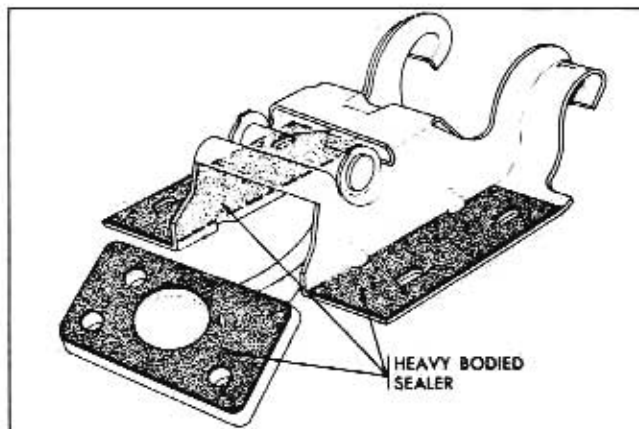

Fig. 10A-56 Back Door Hinge—Anti-squeak
5. Using a pressure type applicator, apply weatherstrip cement (neoprene type) between weatherstrip and outer surface of gutter as indicated at "2" in Fig. 10A-55, completely around gutter to assure a water-tight seal.